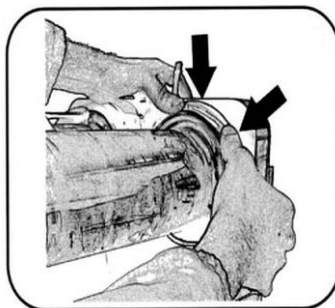

Fig. 33
4. Once the tank gasket is in place, use your thumbs to press down on the bottom and then gradually down the top (make a circle with your fingers) until it is properly seated. (Fig. 33, 34)